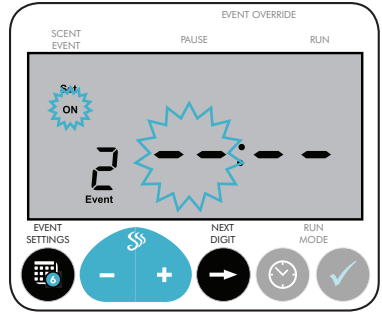

Fig.11: ON and empty hour slots will be flashing along with the current event number.
1. Press **EVENT SETTINGS** until you reach an empty event. **(Fig.11)**
- Create up to six (6) Scent Events.